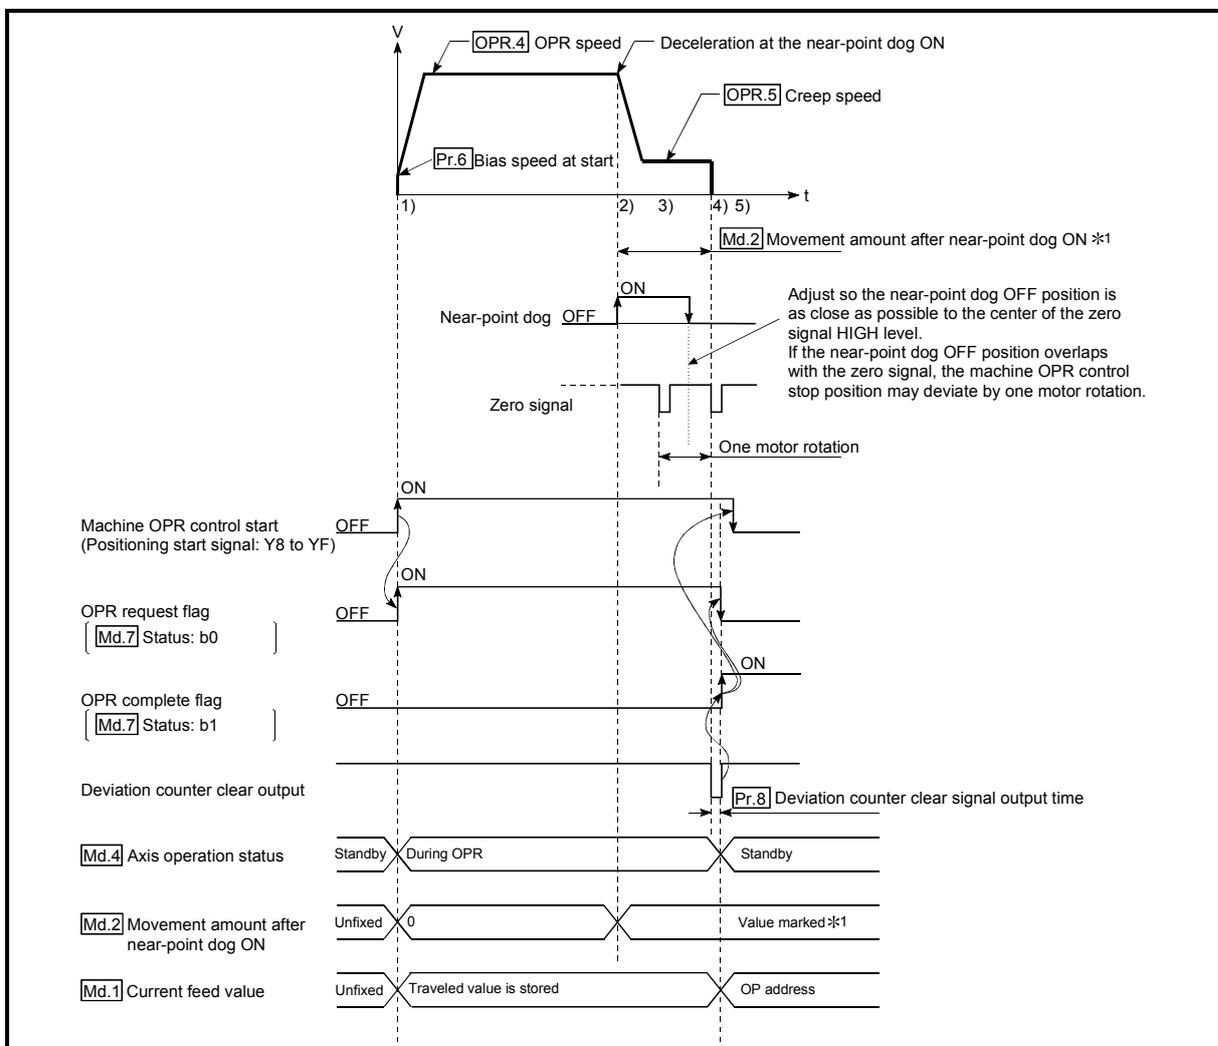

Fig. 8.2 Near-point dog method machine OPR control
- (1) When the near-point dog is ON at start, an error, "Start during near-point dog ON" (Error code: 201) occurs. Perform JOG operation to move the axis to the position where the near-point dog turns OFF. If the OPR retry function is used, however, no error will occur. It starts at the creep speed and performs the OPR control. Start the operation at creep speed to perform zero return. (Refer to Fig. 8.2, 3 to 5.)
- (2) The near-point dog must be ON during deceleration from "OPR. 4 OPR speed" "OPR. 5 Creep speed". The following is the operation performed if the near-point dog turns OFF before deceleration to the creep speed.